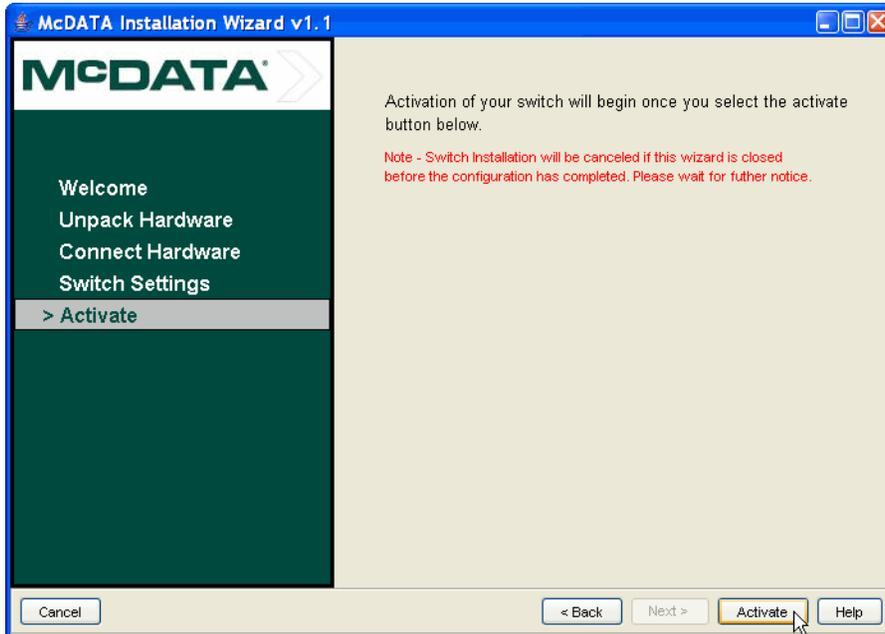
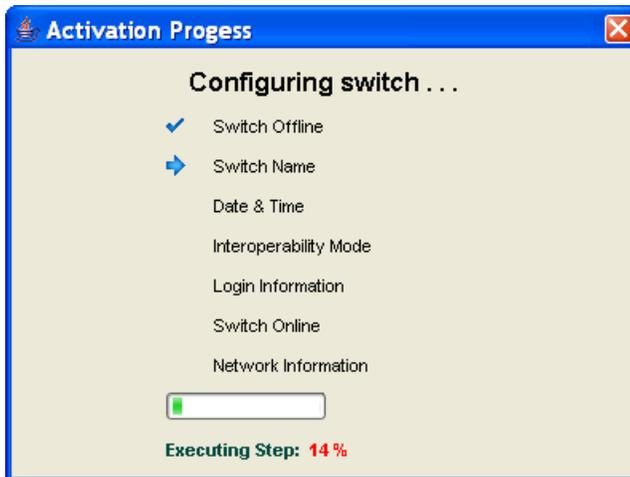

Figure 21 SANplicity wizard activation screen
Figure 22 SANplicity wizard activation progress
7. Click **Activate**, as shown in Figure 21, and the progress window shown in Figure 22 will appear.